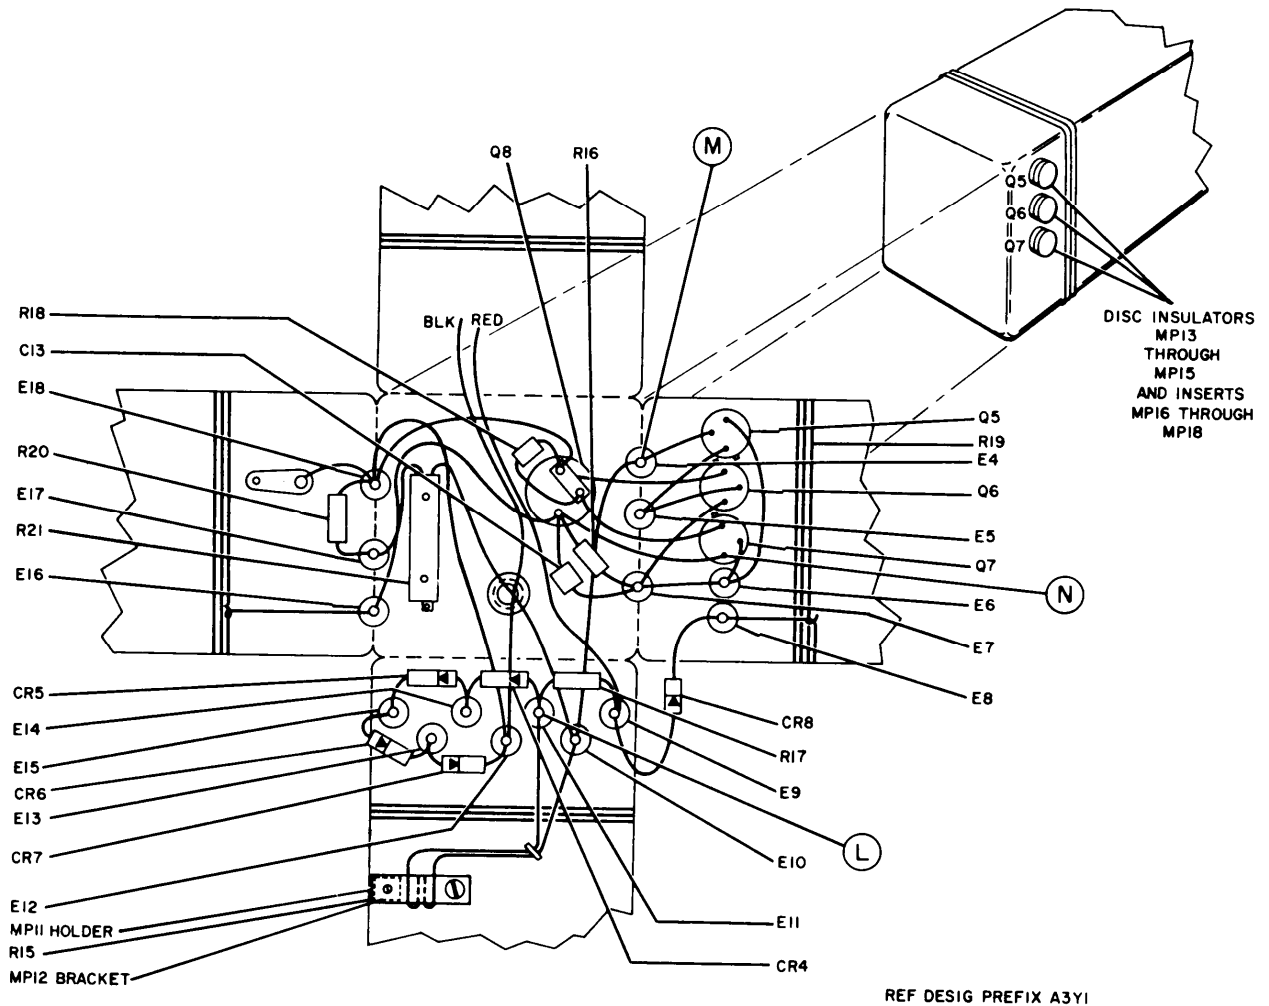

Figure 5-27. Crystal Oven, Location of Parts
(1) Perform the procedure of steps (1) through (8) of paragraph ae.
(2) Unsolder the two crystal leads from feedthrough terminals A3Y1E2 and A3Y1F3 (figure 5-27).
(3) Remove and save the six screws and lock-washers that secure the crystal shield A3Y1MP7 to the panel A3Y1MP6; then remove the crystal shield together with the crystal.
(4) Remove and save the three screws, washers, and nuts that secure the crystal shield to the crystal; then remove the crystal shield.
(5) Remove and save the resilient mount A3Y1MMP7 from around the defective crystal.
(6) Wrap resilient mount around the glass envelope of the replacement crystal; hold the wrap in